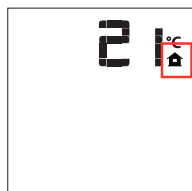

Figure 30b - Remote Control Displaying Room Temperature
1. Press the ON/OFF button on the transmitter. The transmitter LCD display will only show the room temperature and icon (see Figure 30b). The receiver disconnects and will command the DFC board to turn off the burner.